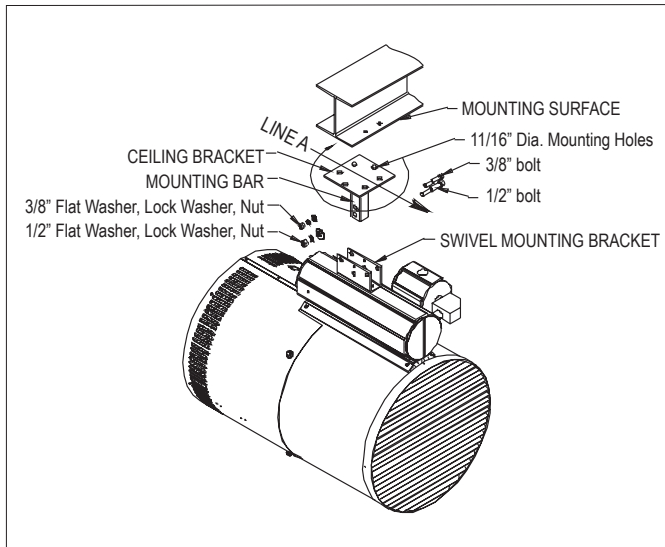

Figure 4 – Ceiling Mounting
- 1.1 Install the ceiling bracket to the mounting surface with the desired orientation. Ensure that 'LINE A' (Figure 4, page 6), a line drawn perpendicular to the bolt holes in the mounting bar, is pointed in the desired direction of airflow. The ceiling bracket must be secured to the mounting surface using as many as six (but not less than two) 5/8" fasteners (not provided). Make certain that lockwashers are used under all nuts or lag bolts.